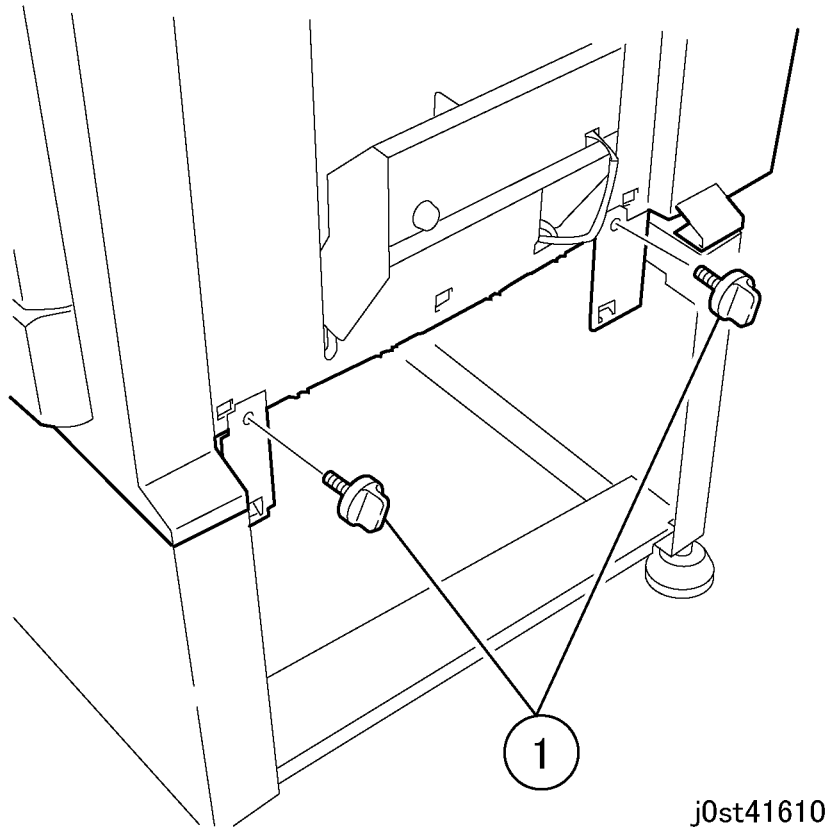

Figure 6 Removing the Knob Screws (j0st41610)
7. Remove the Knob Screws. (Figure 6)